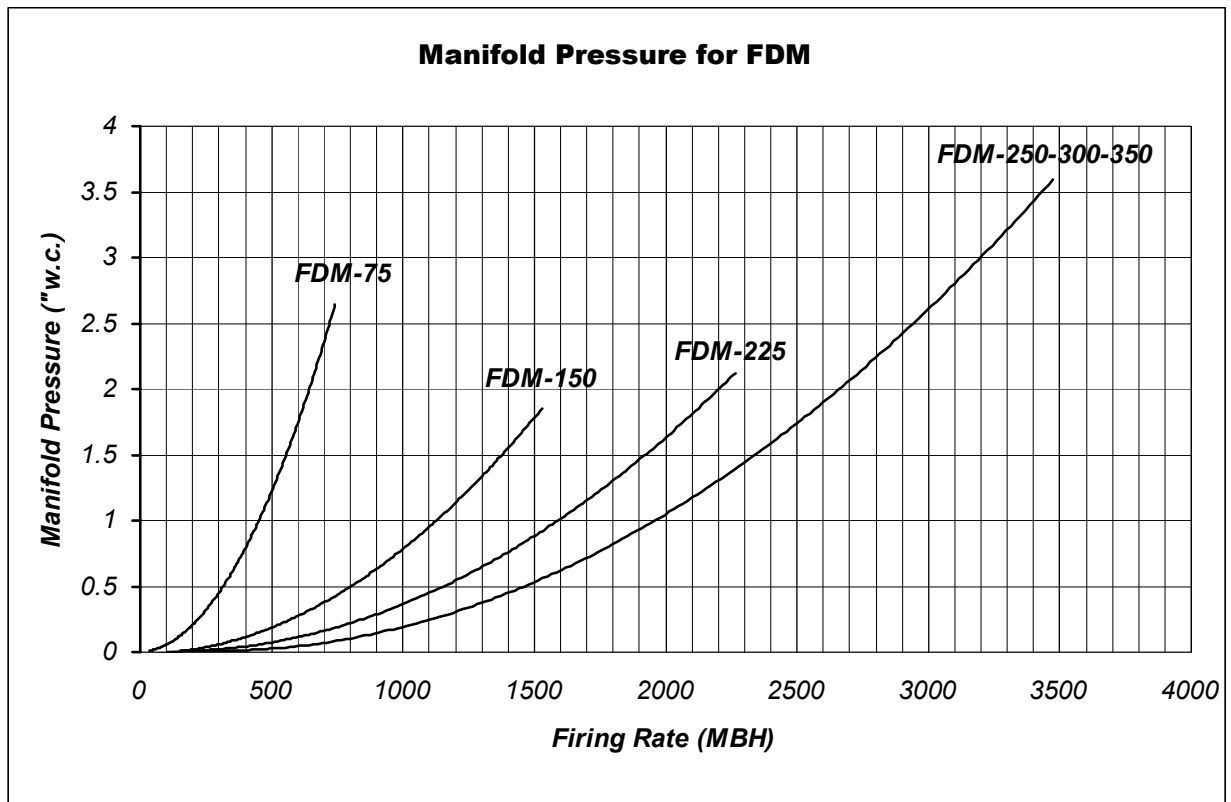

Figure 6: Manifold Pressures/Firing Rate for Natural Gas
- 3.1.6 Approximate gas flows and pressures are shown above in **Figure 6** and in **Table 1** for natural gas and propane.
- 3.2.6 Attach gas pressure gauge or manometer of appropriate pressure scale to the manifold pressure tap. **Refer to Figure 6** for manifold pressures.